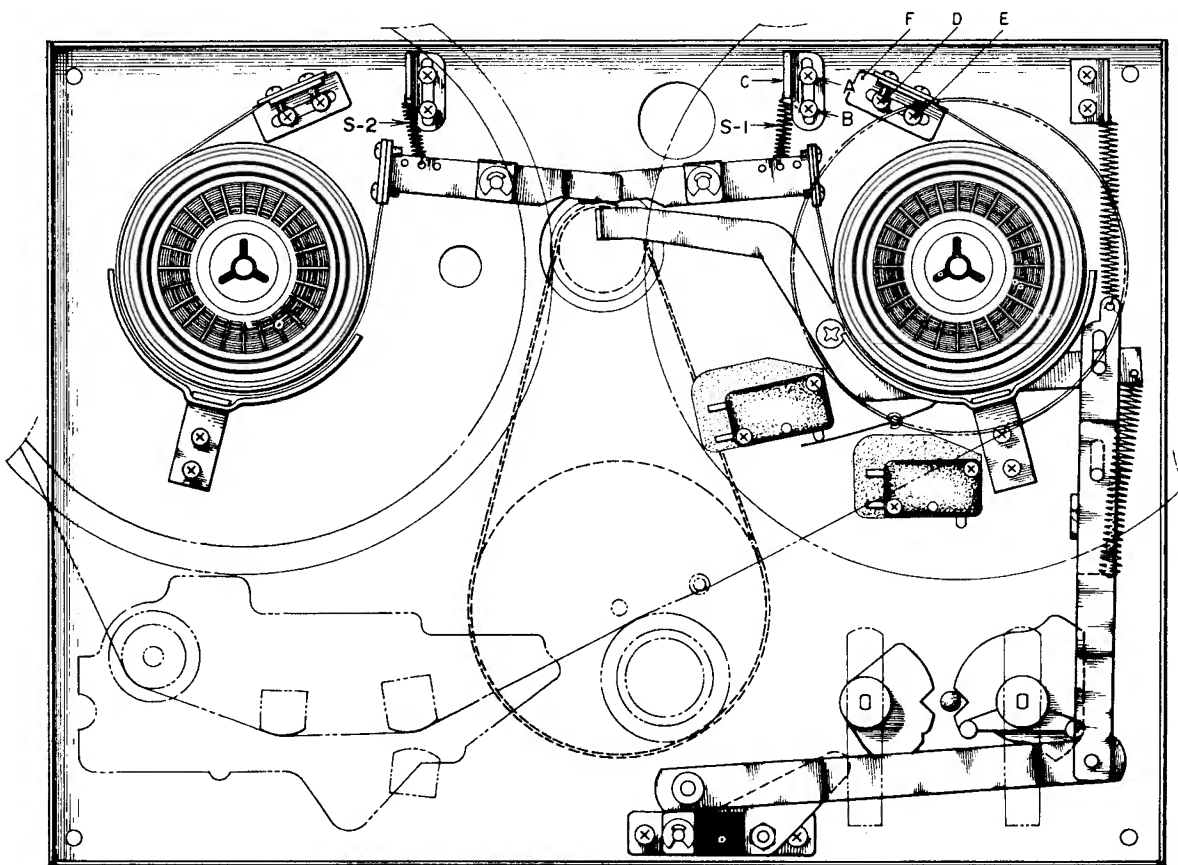

Fig. 8
5. BRAKE TENSION ADJUSTMENT (See Fig. 8)
For Brake Tension Measurement, use a 60 mm tape wound on a 5" reel and measure with a Tension Gauge. Standard tension is 280 to 330 grams. Adjust Brake Tension by changing position of suspended springs (S 1 and S 2 in Fig. 8), loosening screws (A) and (B) and changing position of spring suspension metal (C), or loosening screws (D) (E) and changing position of F. Caution: Following Brake Adjustment, confirm that the Brake Band does not touch the cloth tape on brake drum.